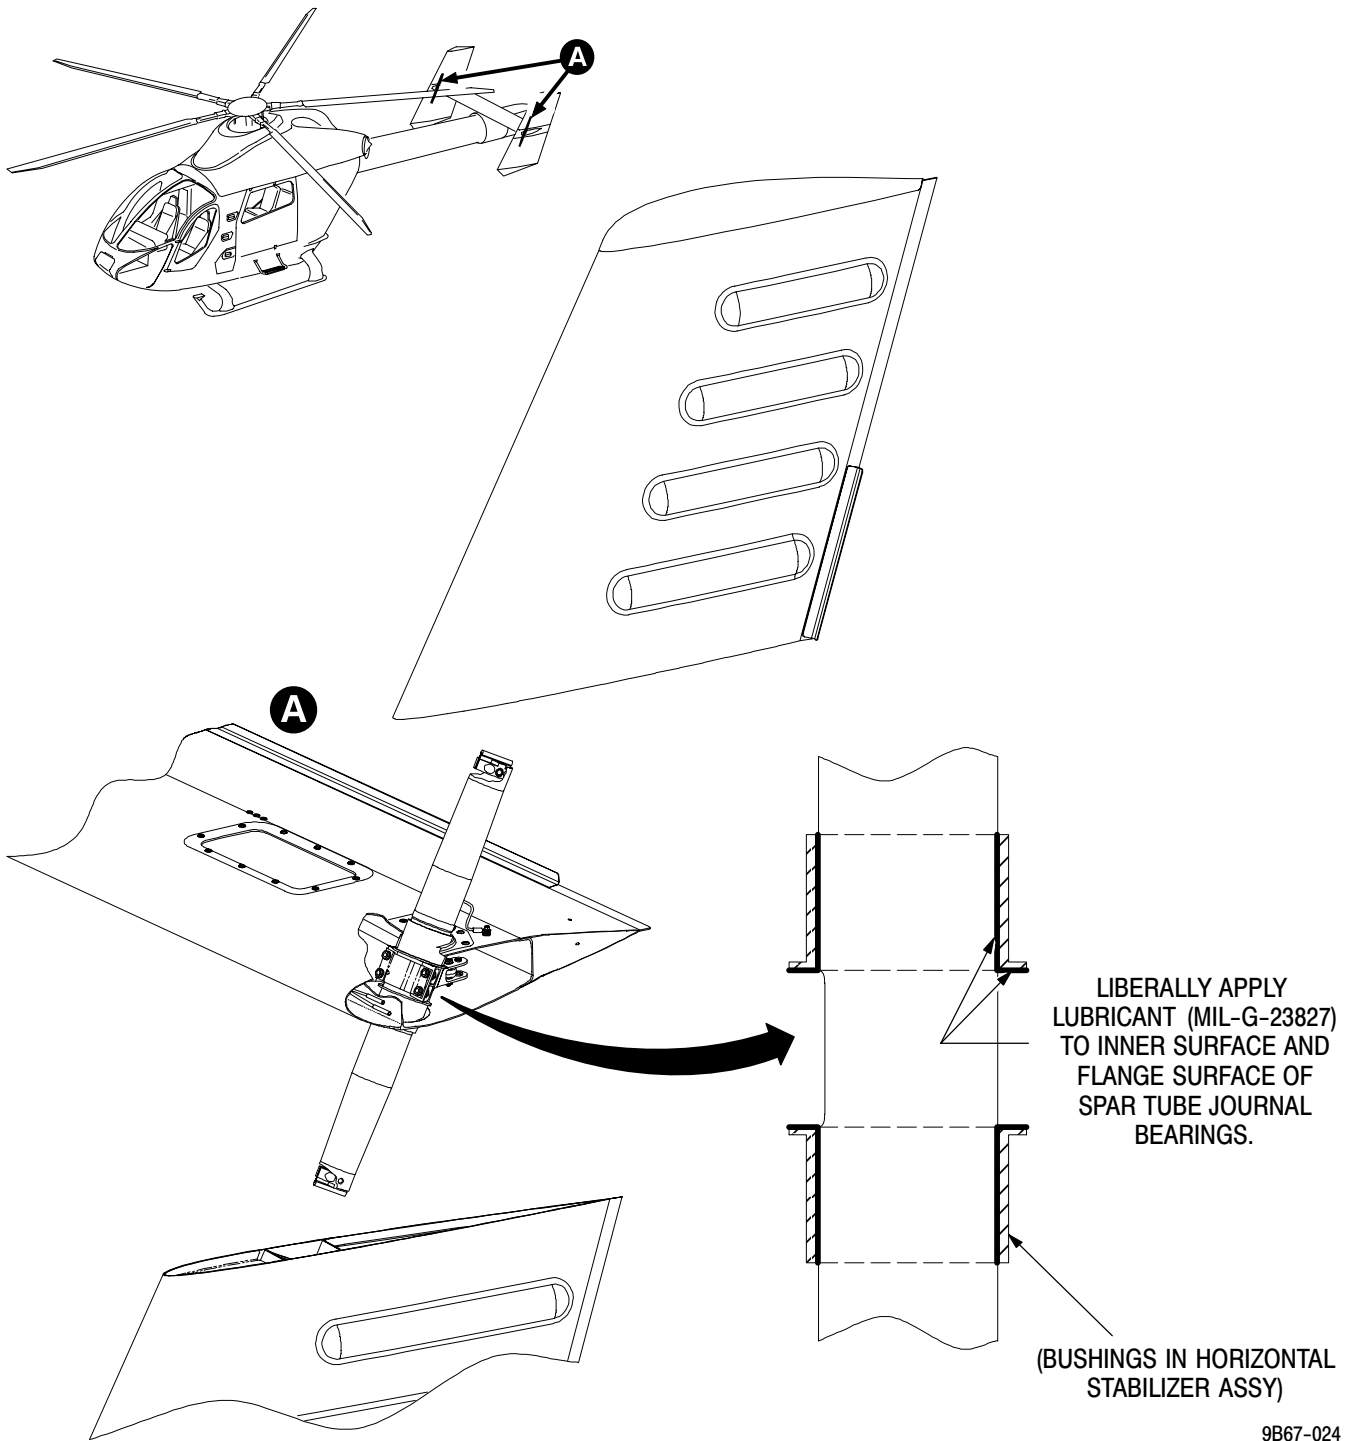

Figure 1. Vertical Fin Greasing Procedure
(Ref. Figure 1)
- (1). Remove spar tubes per instructions contained in the Rotorcraft Maintenance Manual (CSP-900RMM-2; Spar Tube Assembly Removal).
- (2). If required, remove any scratches using 600 grit paper on the spar to bushing surfaces. Clean any debris using a clean cloth and isopropyl alcohol.
- (3). Liberally apply lubricant (MIL-G-23827) to inner surface and flange surface of journal bearings as shown in Figure 1.
- (4). Reinstall spar tubes per Rotorcraft Maintenance Manual (CSP-900RMM-2; Spar Tube Assembly Installation).